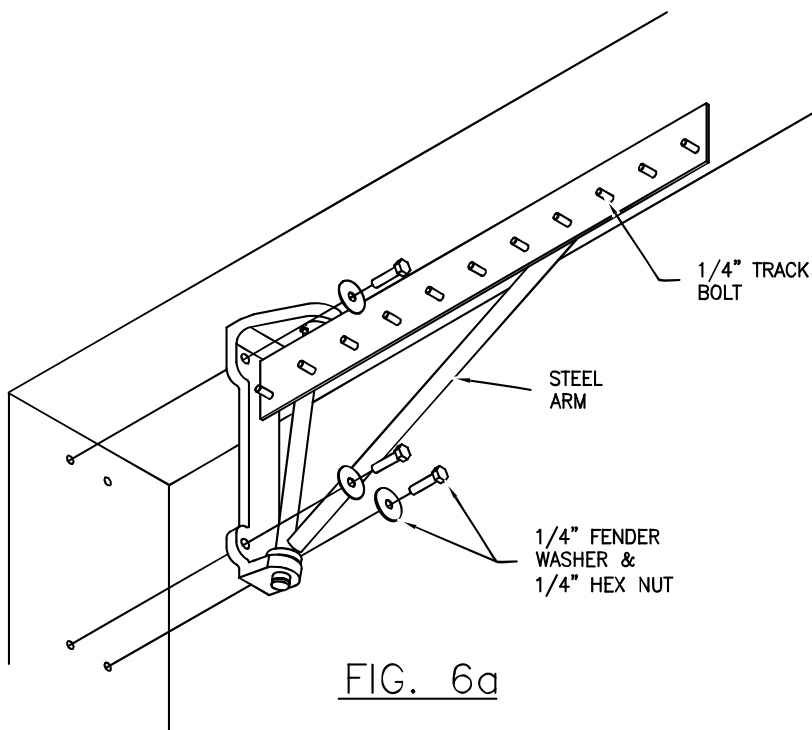

FIG. 6a
- d. Attach hinge bracket assembly to jamb (Fig. 6a).